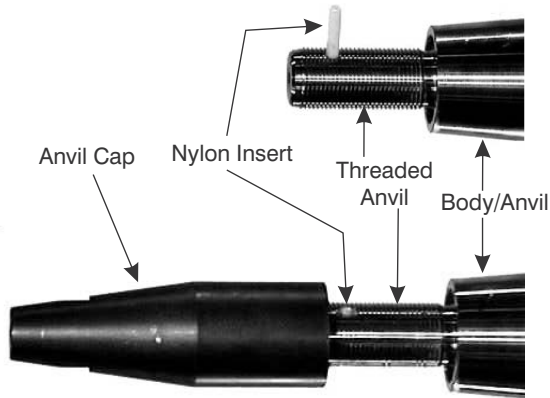

Figure 9-3. Anvil Cap and Nylon Insert
During operation of the Hole-Hog, the Nylon Insert (3) pressing against the threads prevents the Anvil Cap from vibrating off of the anvil. Refer to Figure 9-3.